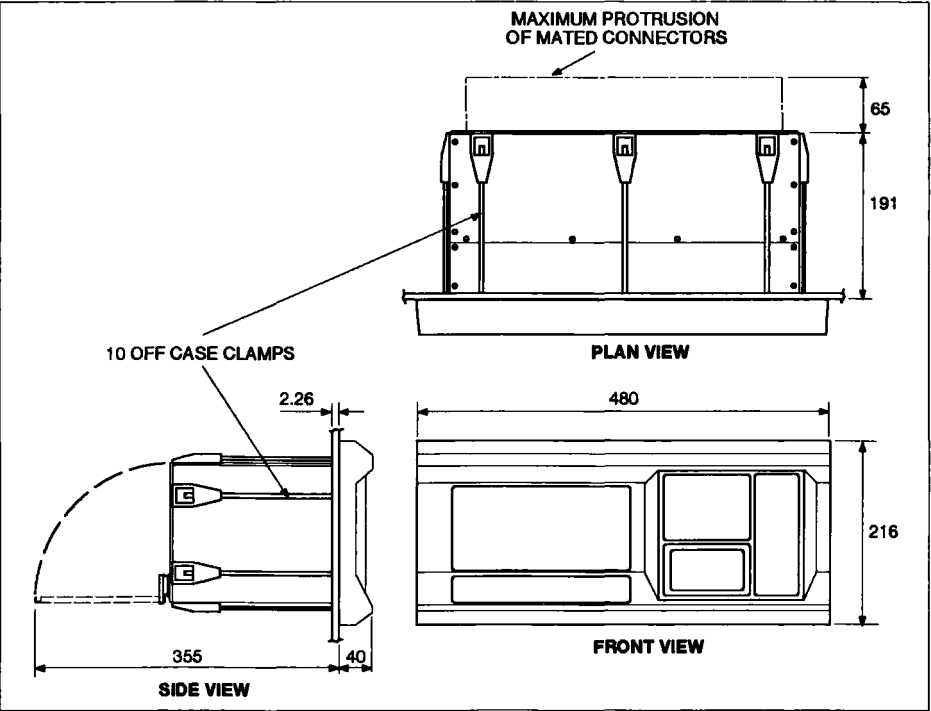

Figure 2.1 T1000 Panel Mounting Dimensions
1. Insert the T1000 unit into a panel cut-out from the front of the panel. Figures 2.1 and 2.2 show the dimensions and panel cut-out details for the T1000.